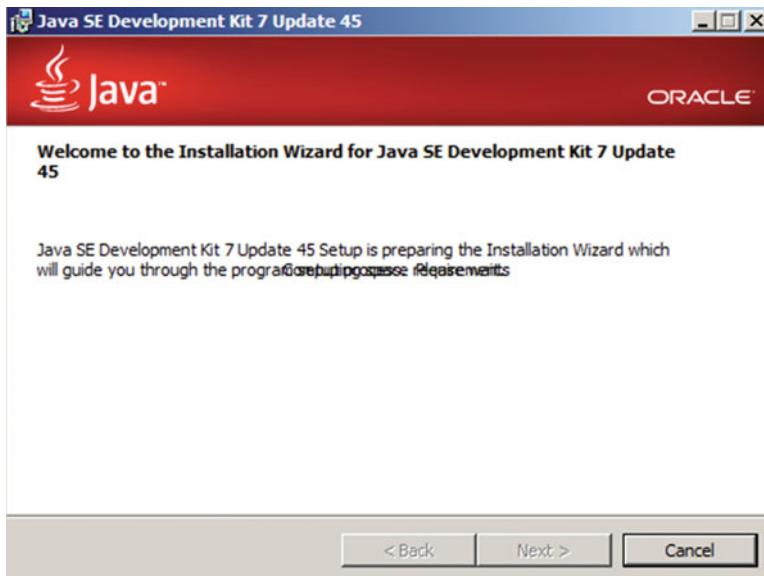

Figure 1-3. Step 1 of the JDK Installation
1. Double-click the file jdk-7u45-windows-i586.exe, and you will see the screen shown in Figure 1-3. Then, click the *Next* button.